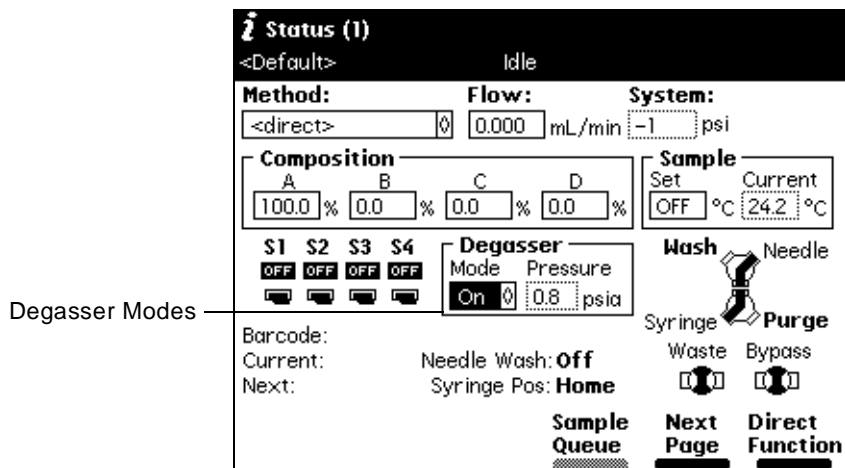

Figure 1-15 Degasser Modes on Status Screen
2. Press the **Next Page** screen key (if necessary) to display the Degasser fields (Figure 1-15).